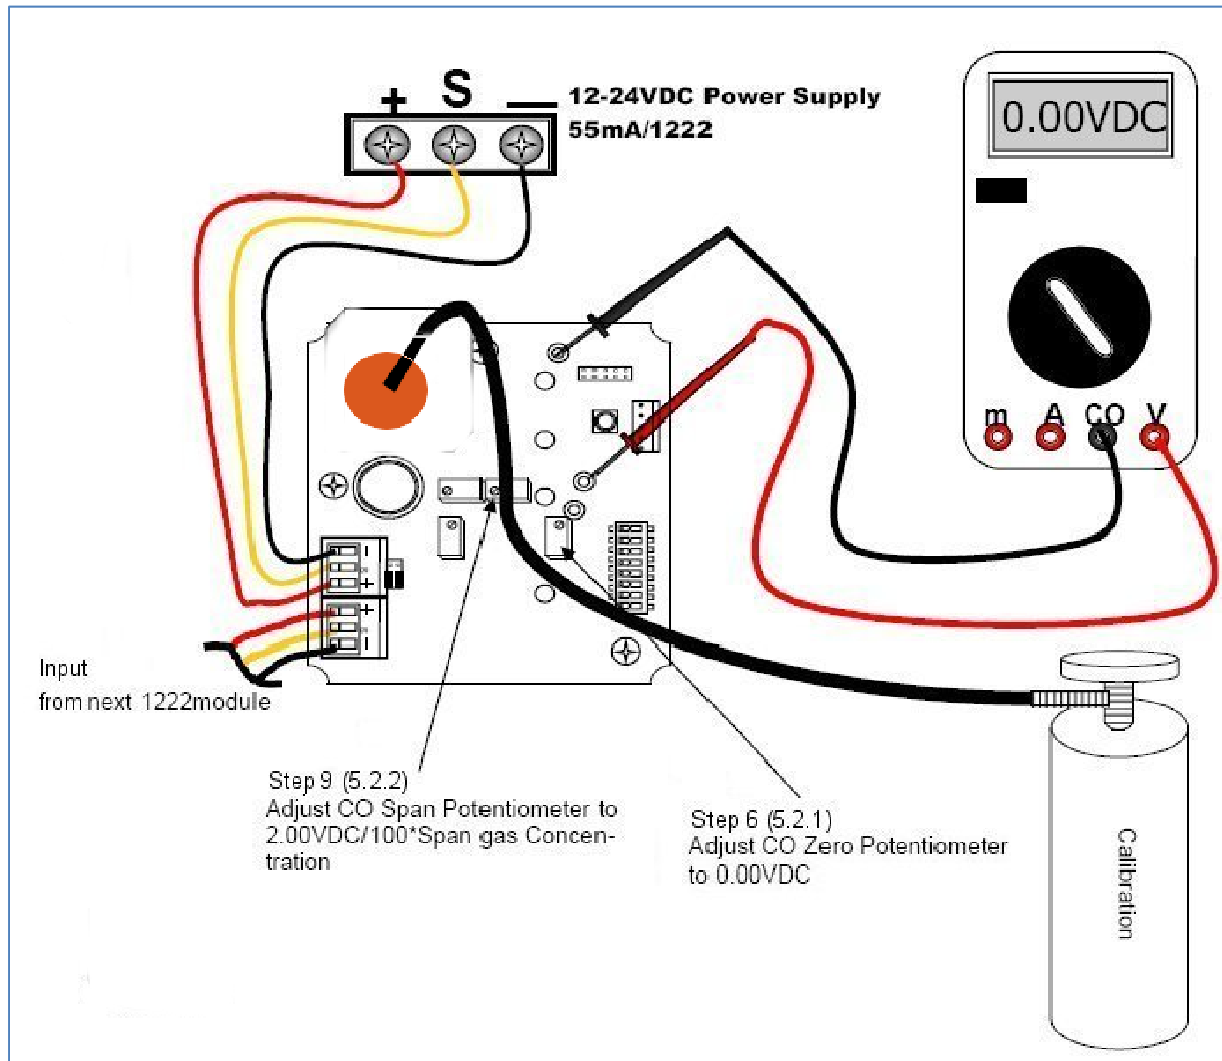

Figure 5-1 Calibration Procedure for 1222 CO
5.2.1 ZERO ADJUSTMENT (CO)
Step 4 Connect Multimeter to COM(-) and TP2 as shown in Figure 5-1
5.2.2 SPAN ADJUSTMENT FOR (CO) 100 PPM (AMC1222-1 AND -2 VARIANTS)